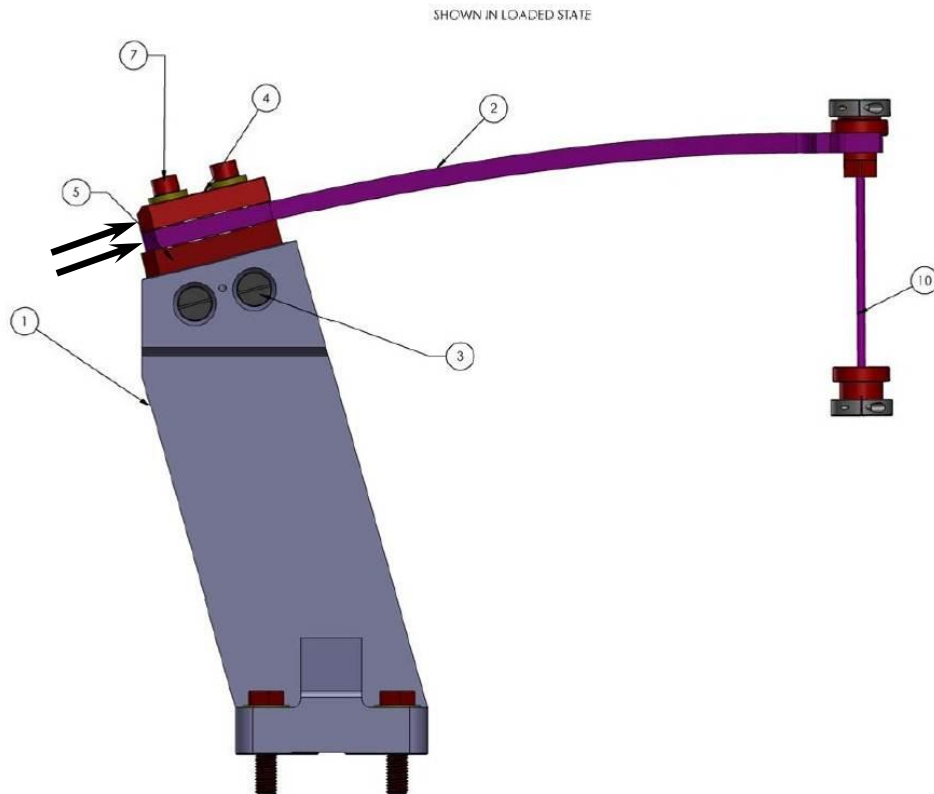

Figure 123: D0901197 Stage 0-1 Blade Assembly Drawing in the Loaded State
- Insert and snug (8) 1/2"-13 x 3.75" Eastwood Bolts Ag Plated with (8) 1/2" McMaster 98125A033 Washers. Before torqueing, make sure that D0901541 Stage 0-1 Spring Blade & D0902697 Stage 0-1 Spring Clamp Cap are against the (2) 1/2" x 2" dowel pins. If they are a little bit loose, push D0901541 & D0902697 against these pins as shown by the black arrows on Figure 123.